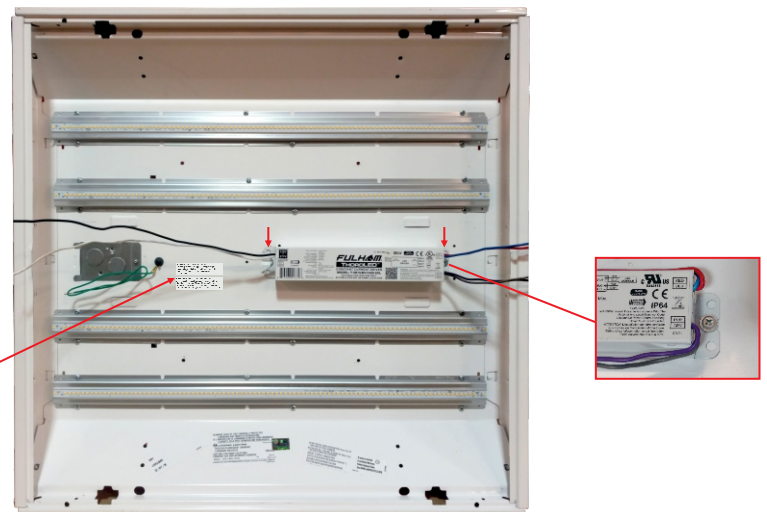

Figure 2
3. Affix the Retrofit Warning Label (E) in the area where it can be visible during the LED Driver installation. See Figure 2.
4. Place the LED Driver (B) on the location shown on Figure 2.
5. Secure the LED Driver (B) to the luminaire using the original screw. If the original screw is not available, use the provided 6-20 x 3/8" Pan Head Self Drilling Screws (D). See Figure 2.